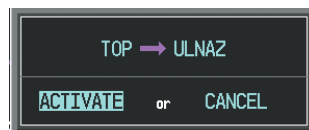

Figure 5-122 Confirm Active Leg
- c) Select the **ACT LEG** Softkey. The confirmation window is now displayed as in Figure 5-122. Note the TOP to ULNAZ leg is actually part of V4.